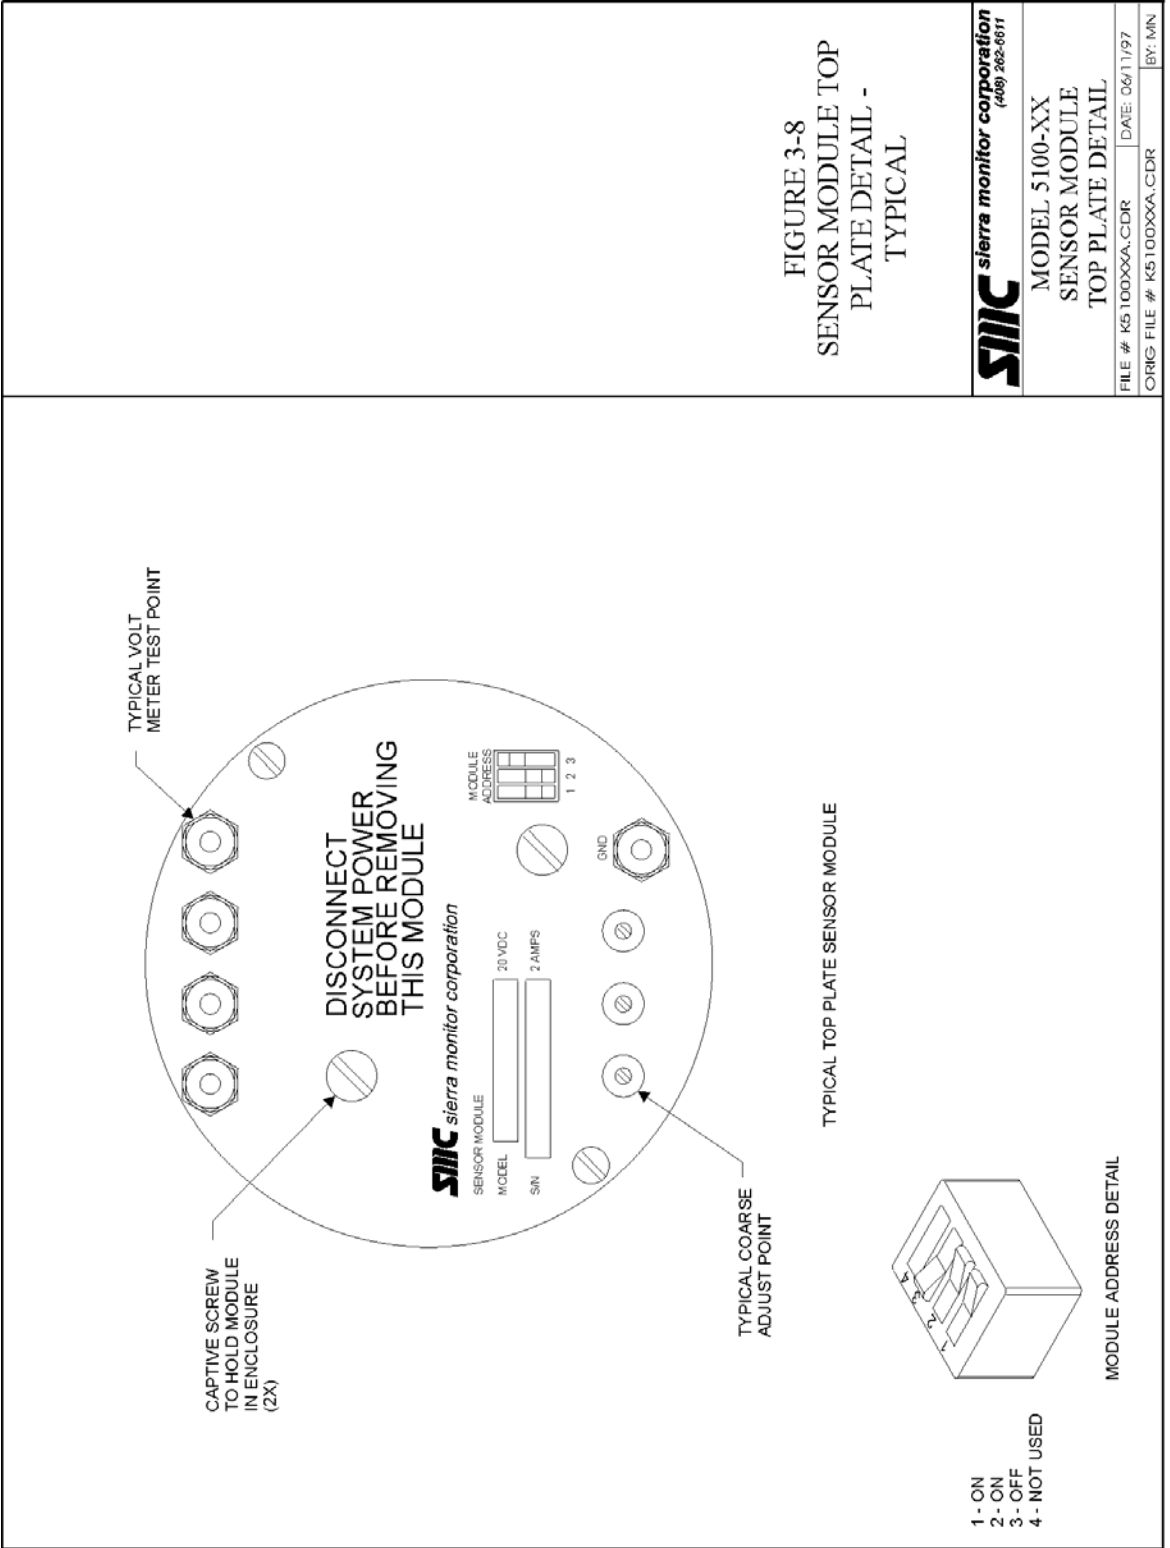

Figure 3-8
7. Set the dip switch Figure 3-8 on each module to indicate the module number (Table 3-4). Each of the modules connected to one controller must have a different address. (Note: Switch position 4 is not used.)